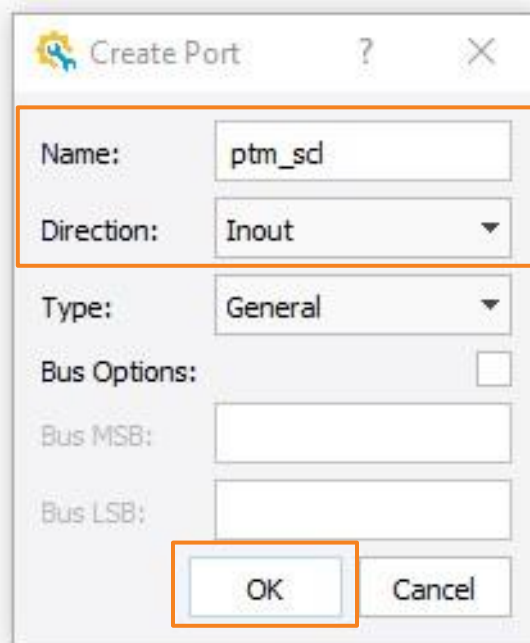

Figure 3.15. Propel Builder – Adding `ptm_scl` Port
11. In the **Create Port** window, as shown in Figure 3.15, Name the port `ptm_scl`, select the port **Direction** to **Inout**, and click **OK**. Repeat this process to create an **Inout** port named `psb_sda`.